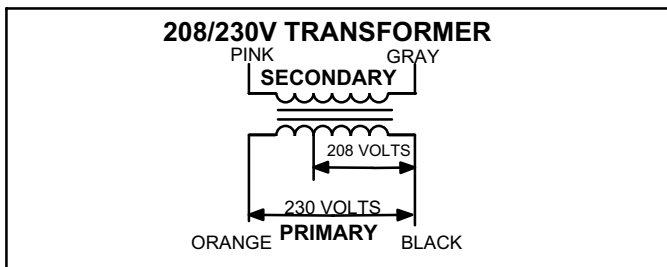

FIGURE 4
All use a single line voltage to 24VAC transformer mounted on the hinged control panel. Transformer supplies power to control circuits in the unit. The transformer is rated at 70VA and is protected by a 3.5 amp circuit (CB8). The 208/230 voltage transformers use two primary voltage taps as shown in figure 4, while the 460 (G) voltage transformer use a single primary voltage tap. T43 is used for units with hot gas reheat for additional 24VAC.